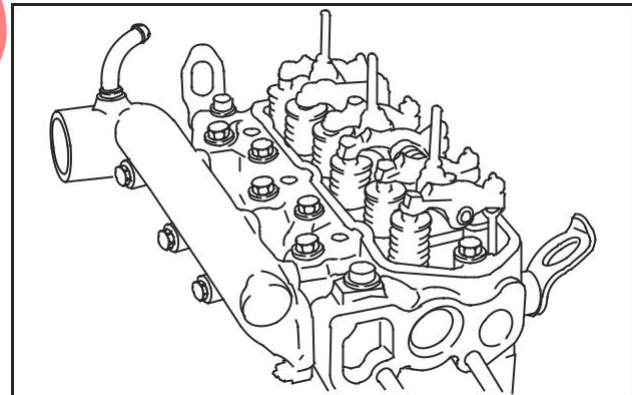

Fig. 36 – Install Intake Manifold
5. Install intake manifold with new gasket, Fig. 36. a. Torque screws to 8.0 Nm (70 in. lbs.).